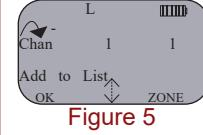

Figure 5
- Scroll to "Add to List", "1st Priority" or "2nd Priority" and press the "OK" softkey. **(See Figure 5)**